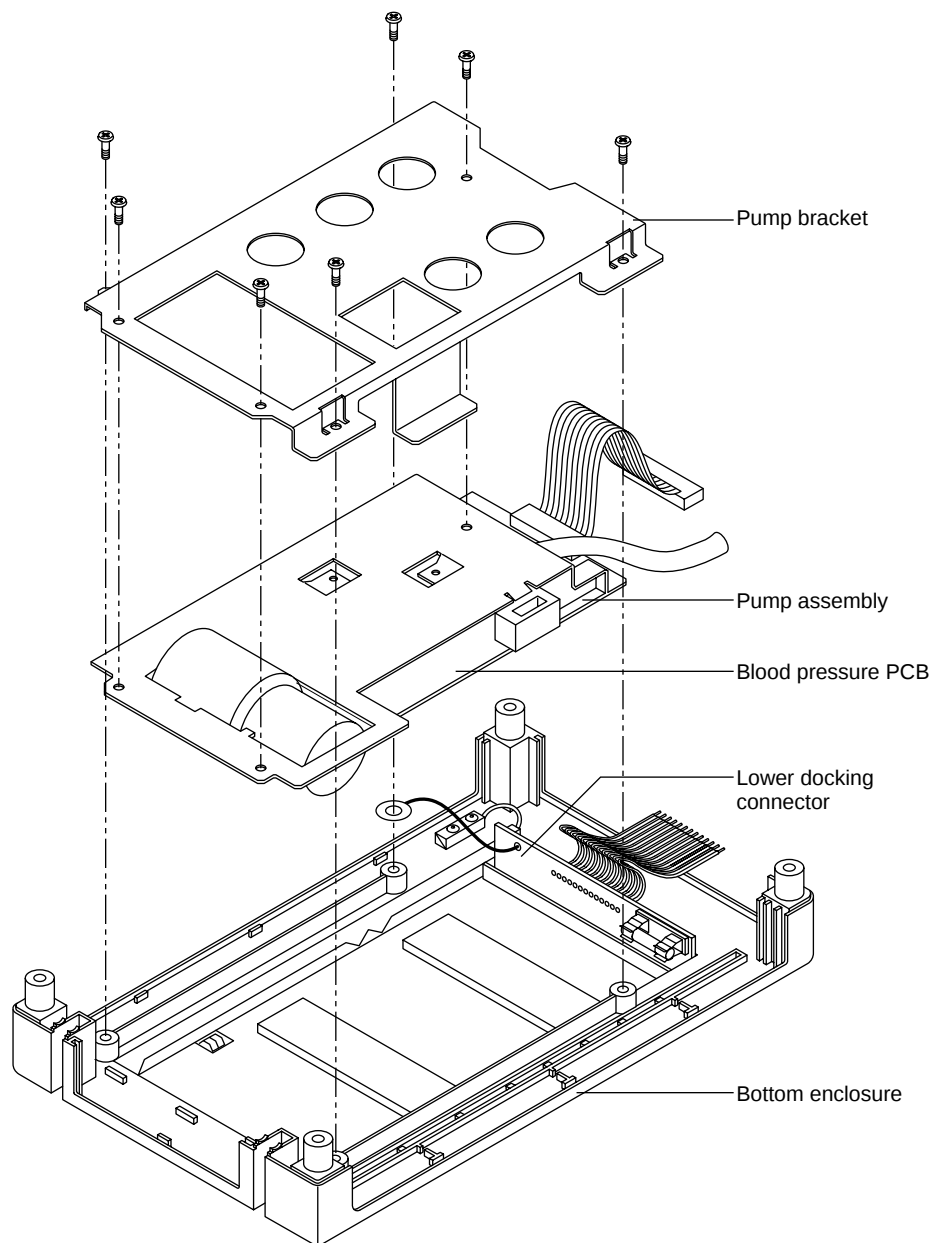

Figure 6-6: Removing Pump Module
1. Remove the four screws securing the module to the bottom enclosure, as shown in Figure 6-6.